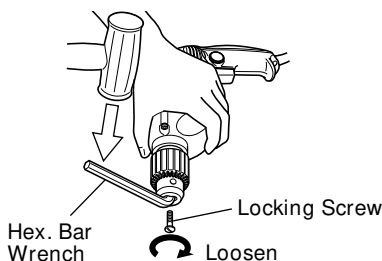

Fig. 7
- (1) Removing chuck from drill (Fig. 7)